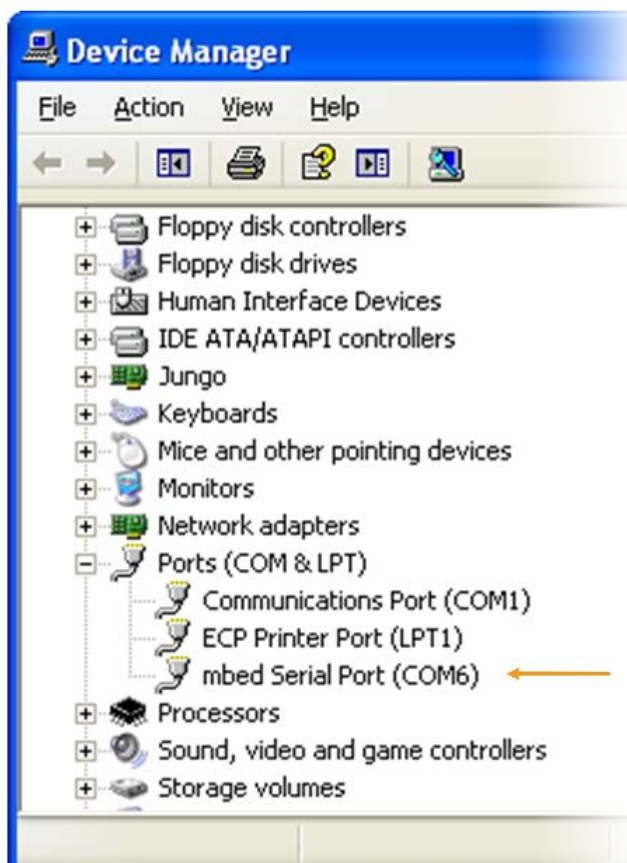

Figure 3. COM port associated with the MT7682 HDK
- 3) In **Device Manager**, navigate to **Ports (COM & LPT)** (see Figure 3).
- 4) A new **COM** device should appear under **Ports (COM & LPT)** in **Device Manager**, as shown in Figure 3. Note the **COMx** port number of the serial communication port, this information is needed to send command and receive logs from the COM port. Virtual COM port is connected to the board through the **UART0** of the chipset, see section 4.5, “Extension connectors”. The **mbed Serial Port (UART0)** is applied to flash the board and log the outputs.